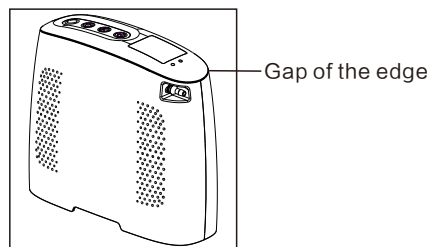
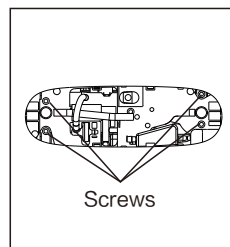
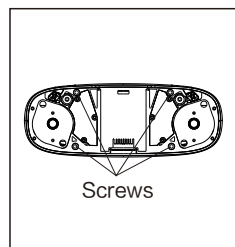

Figure 13
Figure 14
Figure 15
- Put the top of the device upward, use a slotted screwdriver to pry off the top cover along the gap of the cover edge and remove the top cover, as shown in Figure 13. Unscrew the screws shown in Figure 14. Then rotate the device to make the bottom upward and unscrew the screws shown in Figure 15. Lift the front/rear cover to remove them from the device.